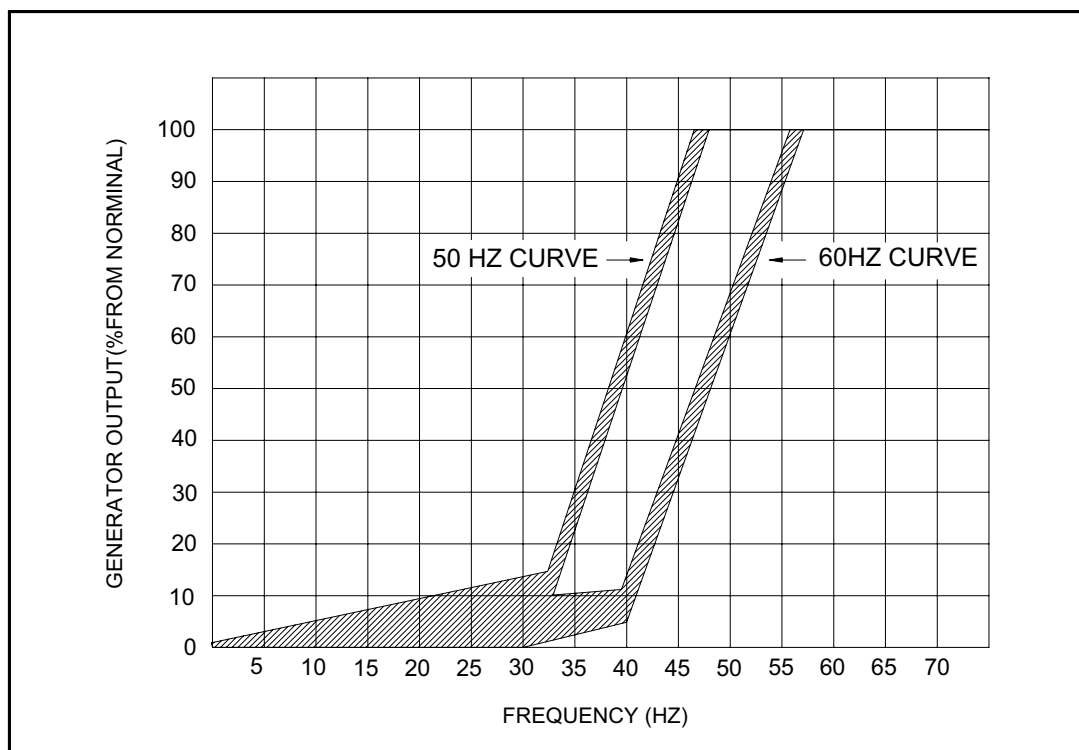

Figure 1-1 Frequency Compensation Curves.
1-3 FREQUENCY COMPENSATION (See Figure 1-1)
- The frequency compensation characteristic of Figure 1-1 used to improve system load pickup performance by restraining voltage recovery until frequency has also started to recover.